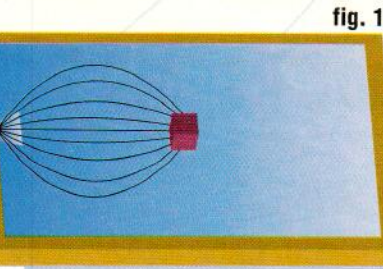
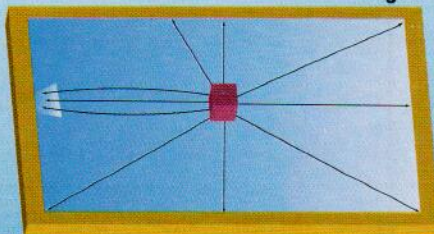
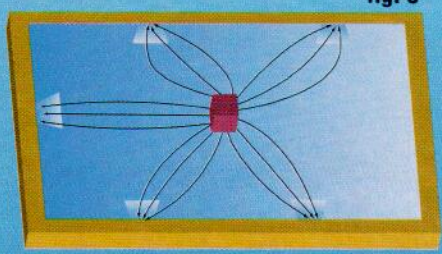
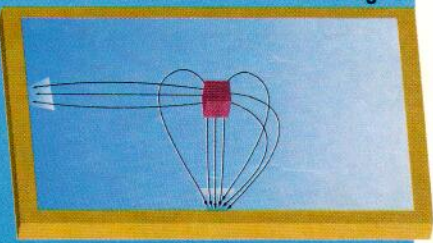

fig. 1
fig. 2
fig. 3
fig. 4
**A single, large leak (fig. 1) will generate a wide detectable pattern. A single, small leak (fig. 2) will create a far narrower pattern. Five small leaks (fig. 3) will create several small readable tracks. One large leak and one small leak (fig. 4) will create one wide track and a much narrower one.**